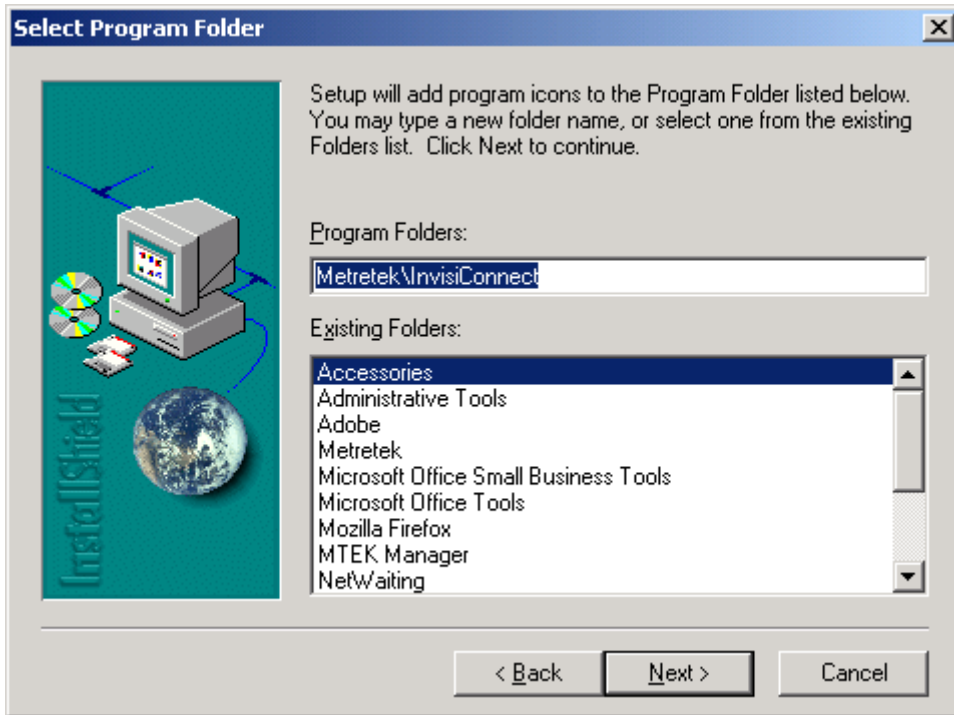

Figure 4 – InvisiConnect™ Installation – Select Program Folder
5. Figure 4. Select Program Folder – this is the folder you will select from the Start Menu. If you wish to change the location of the InvisiConnect™ icons on the start menu, make the appropriate changes here. Click <Next> to continue.